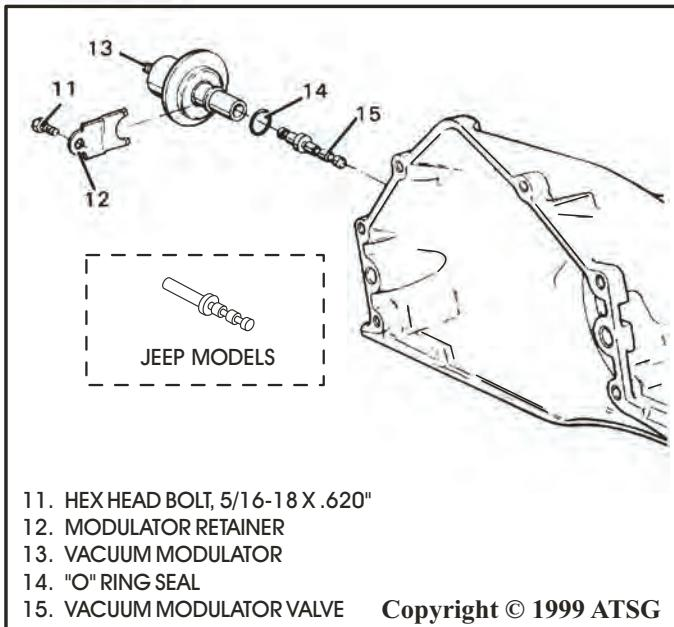

Figure 128
70. Lubricate modulator valve (15) with fluid and install modulator valve into transmission case as shown in Figure 128.
*Note: Jeep models use a modulator valve that has a longer stem on the modulator side, as shown in Figure 128, and requires modulator with the bellows.*
71. Install a new vacuum modulator with a new "O" ring into case, as shown in Figure 128.